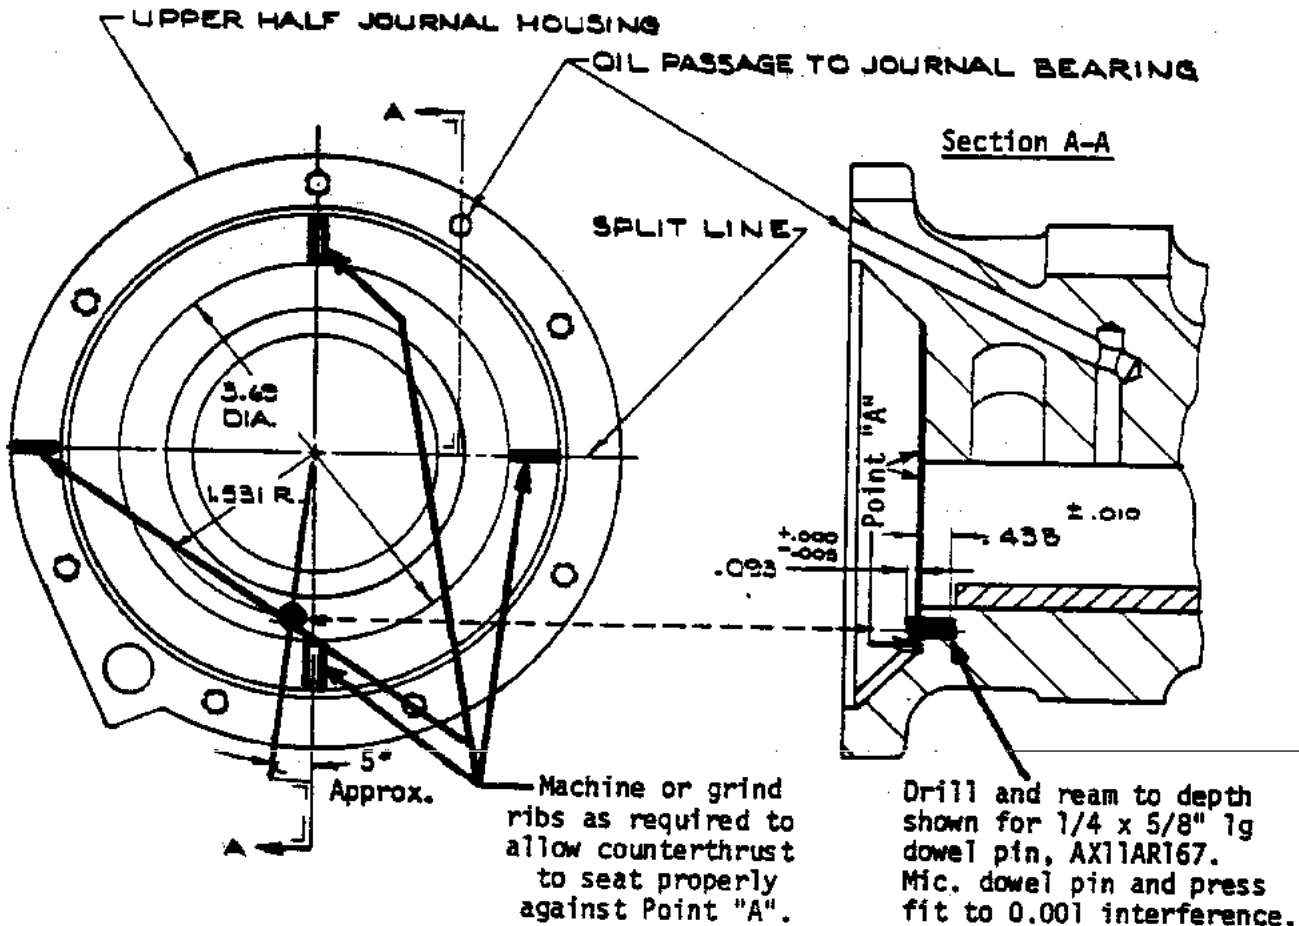

FIG. 2
1. Machine housing as required (Fig. 2) to allow new counterthrust to seat properly.
2. Drill hole for dowel pin, using 1/4" dia. drill (Fig. 2).
CAUTION: COUNTERTHRUST DOWEL PIN MUST BE POSITIONED AS SHOWN IN FIG. 2 AND 3!
4. Install counterthrust dowel pin (Fig. 2). Dowel pin must not prevent counterthrust bearing from seating.